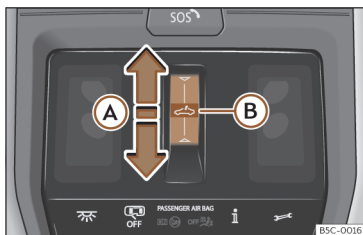

Fig. 90 On the interior roof lining: sunroof button.
- Automatic movement: slide your finger back over the functional area >>> **Fig. 90 (A)**.
forward over the functional area ↵ >>> Fig. 90 (A) and keep pressed until the sunroof is fully closed.